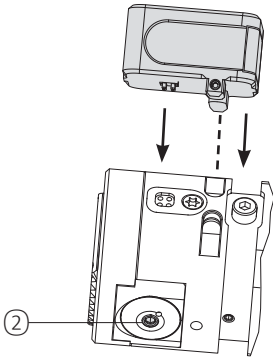
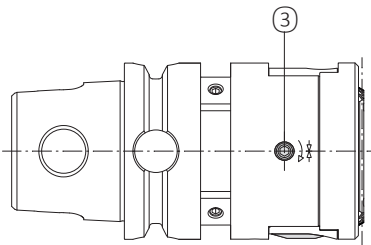

Fig. 1
Fig. 3
Please follow the sequence for setting the diameter as set out below: (Fig. 1, 2, 3):
2. Clip display unit into holding grooves provided in tool (positioning to match contact points, Fig. 1)
3. Switch on the digital readout module by operating the “ON/Reset” ① button. The last displayed increment value appears on the display when it is switched on. Automatic switch-off takes place 30 seconds after the end of the setting procedure. Max. switch-on period 120 seconds.
4. Release threaded clamping pin ③ (Fig. 3).
6. Tighten threaded clamping pin ③ (Fig. 3) (tightening torque 3 Nm (26.55 in. lbs.))
- When the display is switched on, this can be reset to “0” by operating the “ON/Reset” ① again.